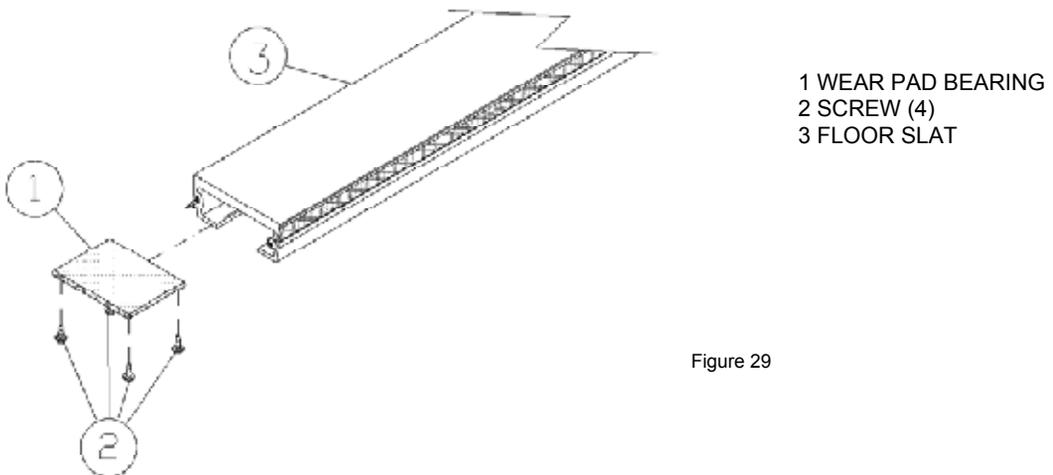

Figure 29
4. Attach drive-in wear bearing in slat (Figure 29).